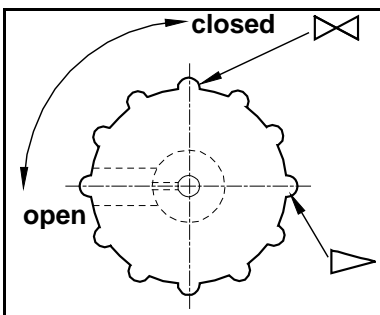

Fig. 20: Gas ballast operating knob
- i** If the gas ballast valve is open the maximum achievable vacuum level is reduced. The gas ballast is adjusted with the button (see fig. 20).